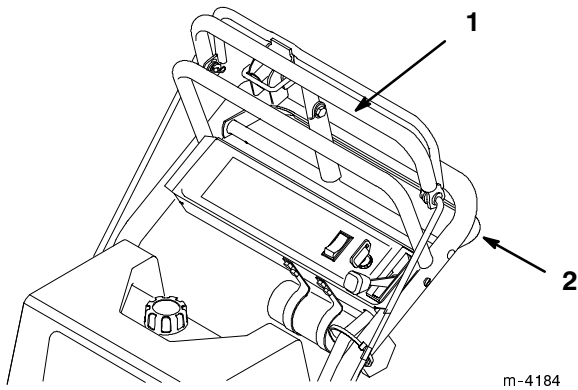

Figure 16
3. Slowly press on the upper control bar to move forward (Fig. 16).
To go straight, apply equal pressure to both ends of the upper control bar (Fig. 16).
To turn, release pressure on the upper control bar side away from the direction you want to turn (Fig. 16).
3. Slowly squeeze the lower control bar and handle together to move rearward (Fig. 16).